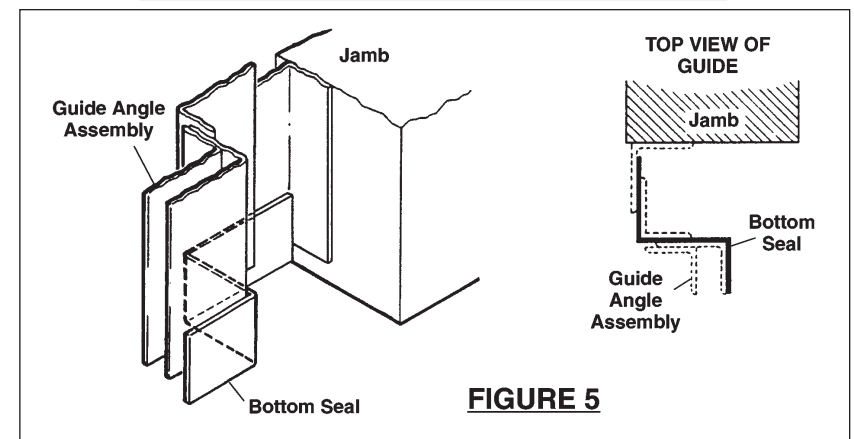

FIGURE 5
- Guide assemblies are designed to rest on floor. If the bottom of one guide is above floor, install a sheet metal bottom seal. See Figure 5.